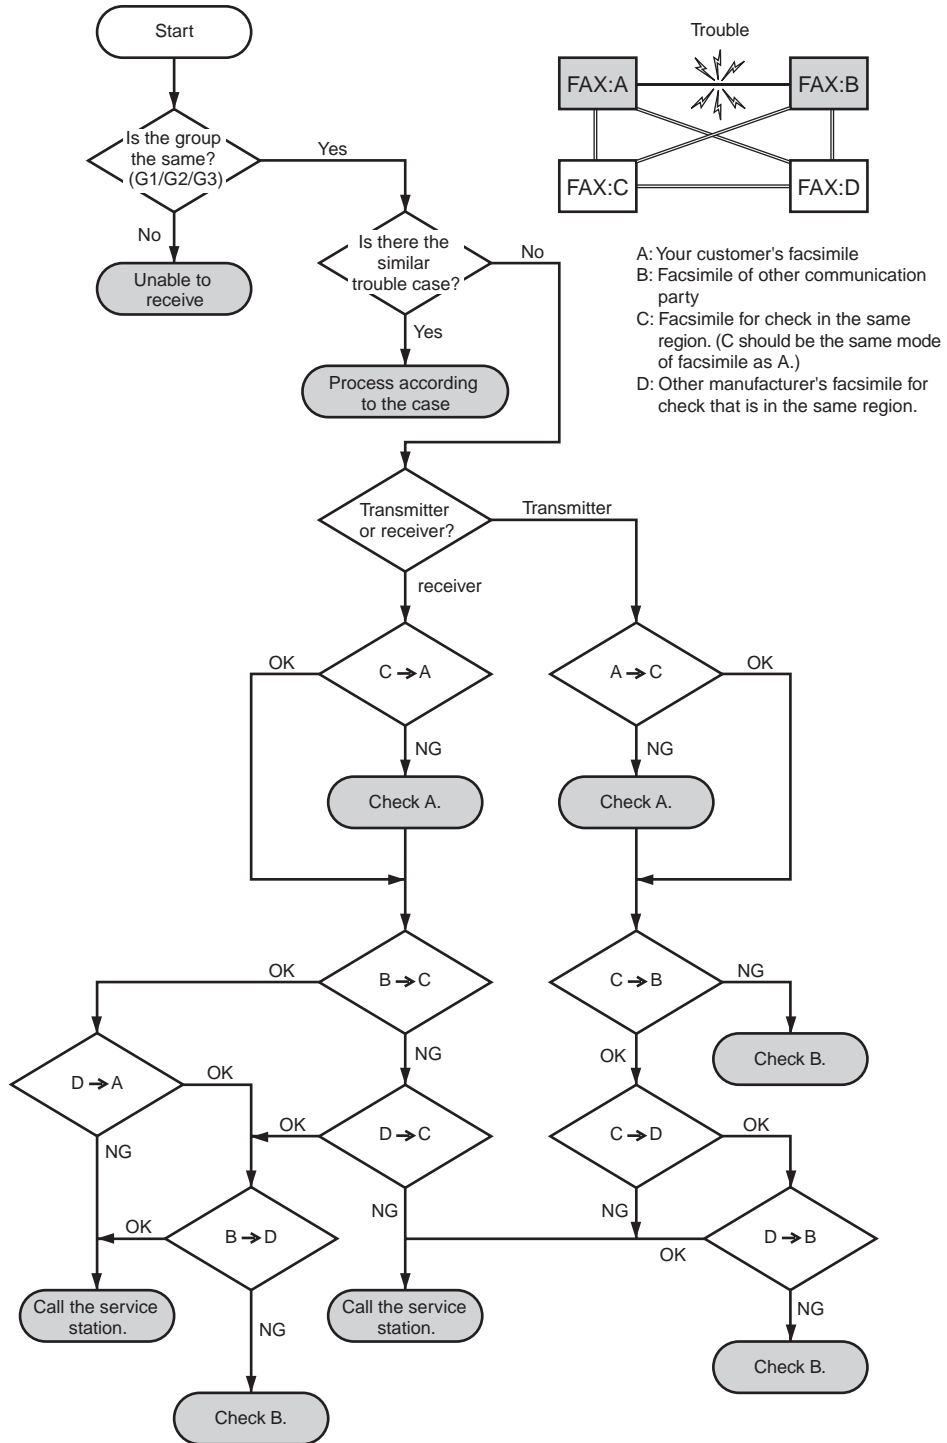

Figure 4-13 Flowchart for Processing Communication Troubles with other manufacturer's facsimile
- (2) Test communication according to flowchart procedures appearing on the next page.
- (3) Finally, process over by judging systematically all the data.
If the other party's facsimile is that of another manufacturer and there is nothing wrong with your customer's machine, it is recommended that you ask your customer to contact the facsimile user of the other party, so that the other party's facsimile is checked by the dealer. "Call the service station" in the flowchart (Fig.4-13) means that problems may occur with regard to the communication compatibility of facsimile, consult the matter with the staff in charge at the service station. To quicken the resolving of the problem, report the information listed in (1) above.